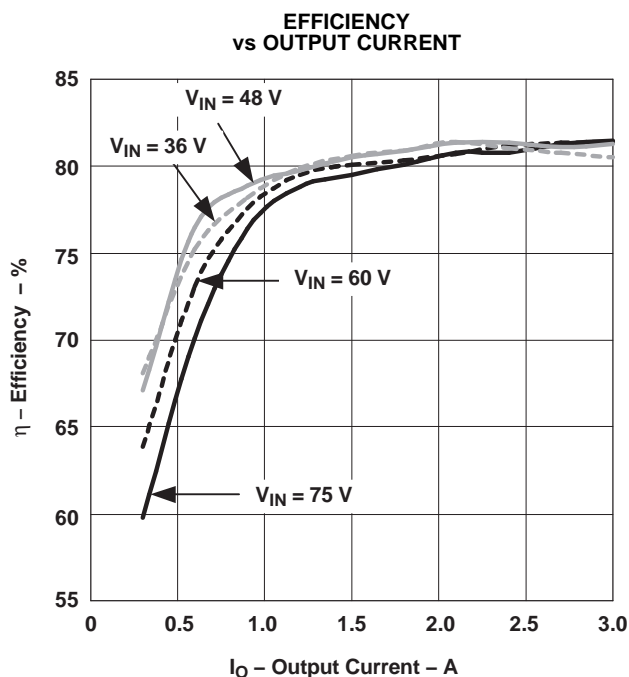
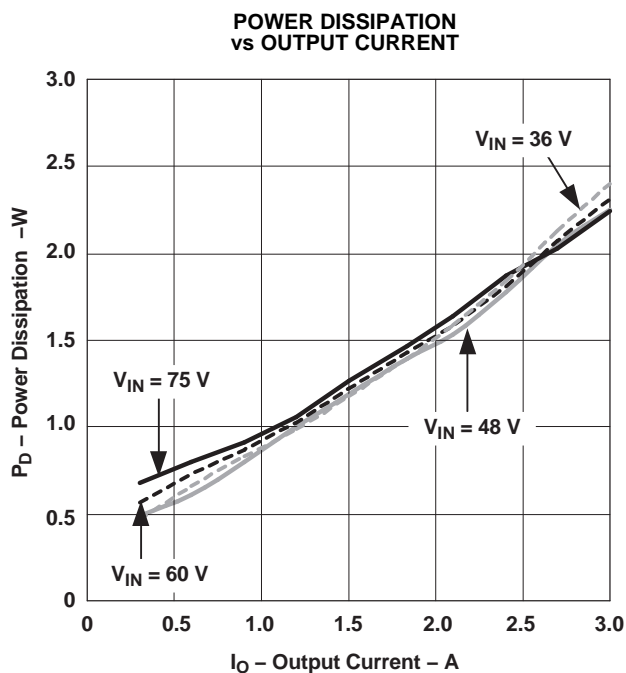
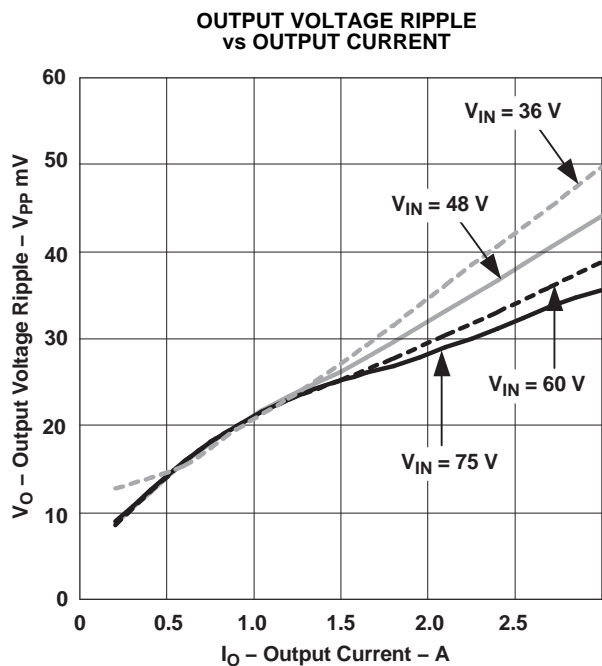

Figure 1.
Figure 2.
Figure 3.
- (1) All data listed in Figure 1, Figure 2, and Figure 3 have been developed from actual products tested at  $25^{\circ}\text{C}$ . This data is considered typical data for the dc-dc converter.